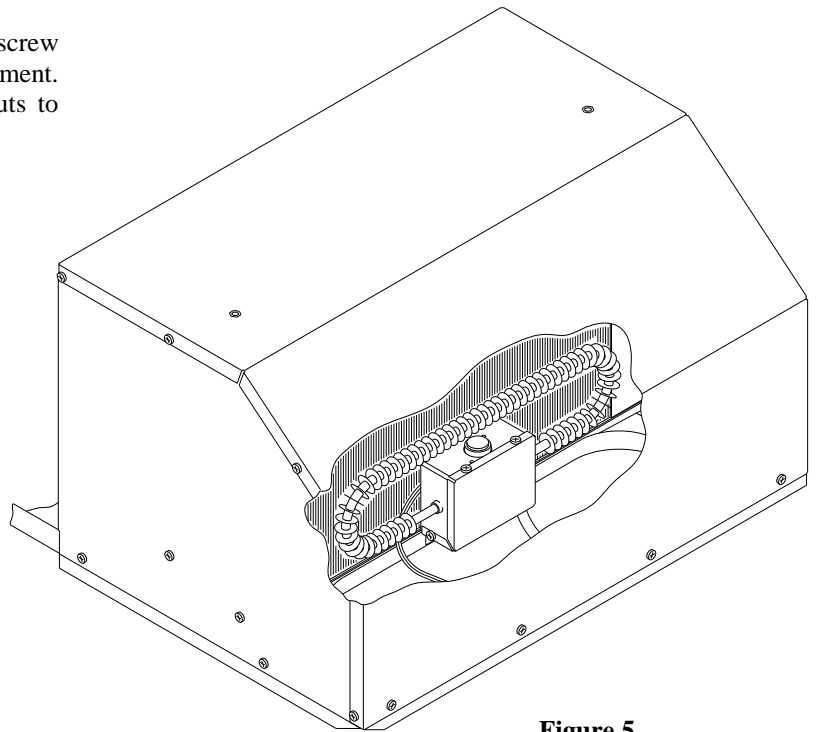
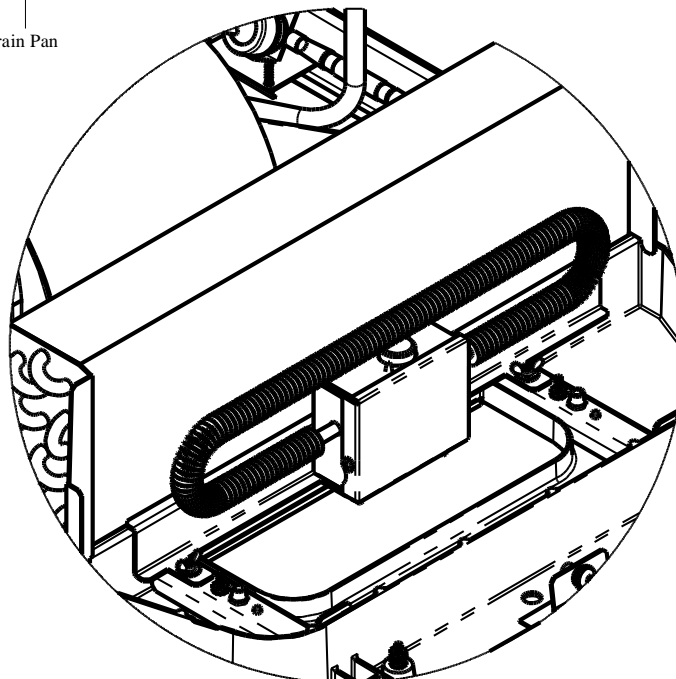

Figure 5
Figure 6
1. The optional heater assembly may now be installed. Refer to Figure 5 for the 48000 and 49000 series units. Refer to Figure 6 for the 47000 series units.
3. For 48000 and 49000 series units, tighten set screw to secure the assembly so as to prevent movement. The 47000 series installation will use wing nuts to secure the heater as shown in Figure 5.